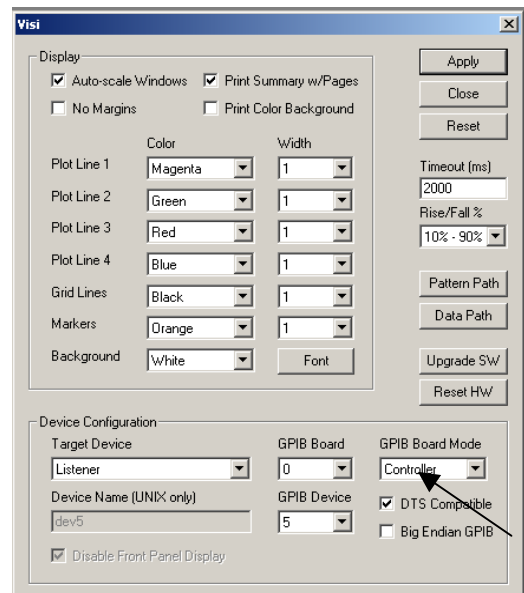

Figure 1. Edit Configuration menu
- Select <Edit> on the main Visi software (pull down) menu. Verify that “GPIB Board Mode” is set to controller. (see Figure 1). Press Apply.